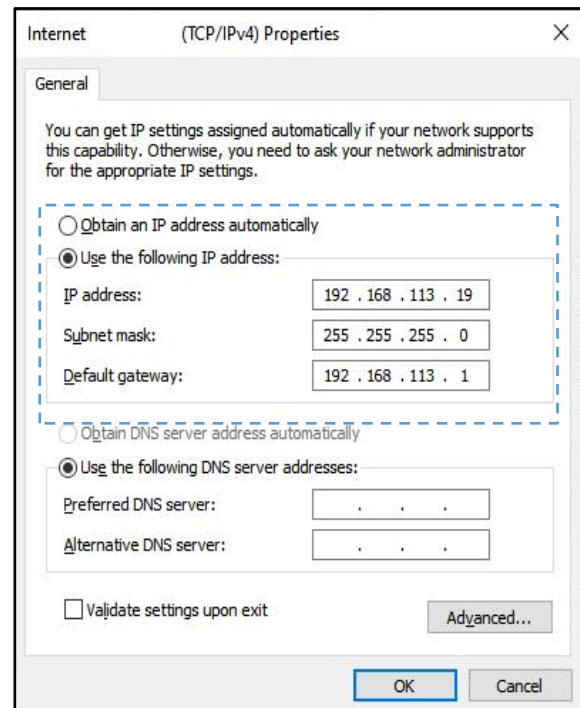

Figure 5-6 Internet Protocol Version 4 (TCP/IPv4) Properties
Step 5: In the "Internet Protocol Version 4 (TCP/IPv4) Properties" window (Figure 5-6), select "Use the following IP address";